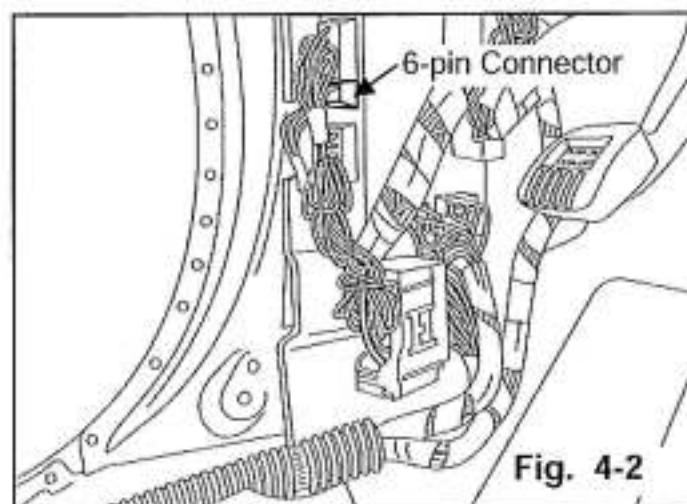

Fig. 4-2
- a) Locate the 6-pin connector (0940-01E) in junction block in the driver-side kick plate area. (Fig. 4-2)